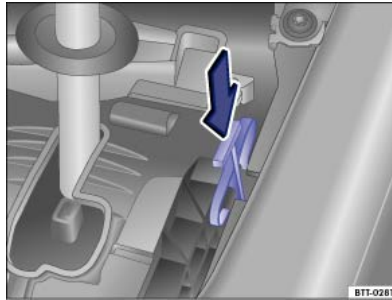

Fig. 127 Unlocking the selector lever lock manually.
- Using the flat blade of the screwdriver from the vehicle tool kit, carefully push the release lever in the direction of the arrow and hold it in this position ⇒ Fig. 127.